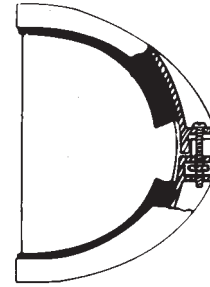
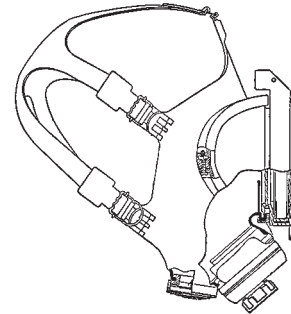

Figure 1
Figure 2
1. Remove the 2-piece lens ring by loosening the screws (figure 1) until the joints are free. Disengage the lens rings from the facepiece rubber lens flange and remove the lens.
3. Assemble 2-piece lens ring over facepiece rubber flange (figure 2). Align the ends of the lens ring with the index marks on the adapter and press into place. Assemble the remaining lens ring in same manner. Tighten the screw (figure 1) by engaging nut.